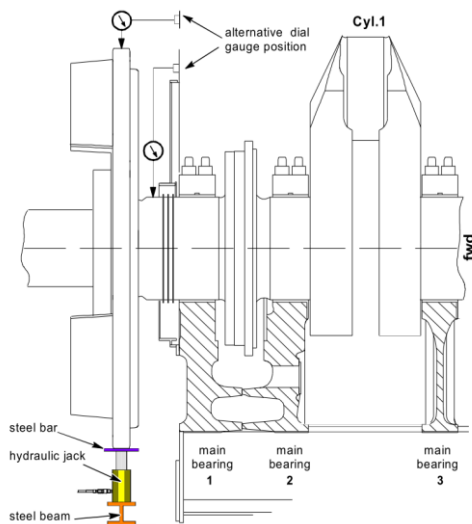

**Figure 14: Arrangement for jack-up test with hydraulic jack and mechanical dial gauge.**
- 4) Arrange the measurement tools (jacks and dial gauges) according to following descriptions, referring to figure 14 to figure 17.